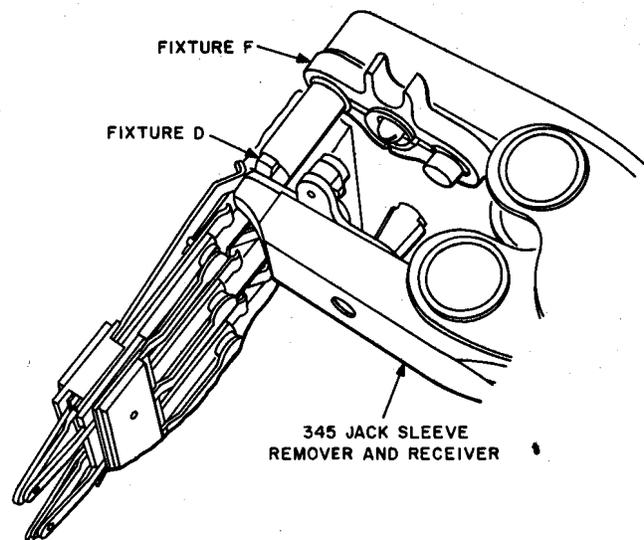

Fig. 13—Method of Locking Sleeve in Place and Flaring Front of Sleeve on 92-, 229-, and 292-Type Jacks
3.22 Flare the front of the sleeve by inserting fixture F of the 345 jack sleeve remover and replacer in the face of the sleeve and fixture D in the rear of the mounting as shown in Fig. 13, and bring the jaws firmly together.